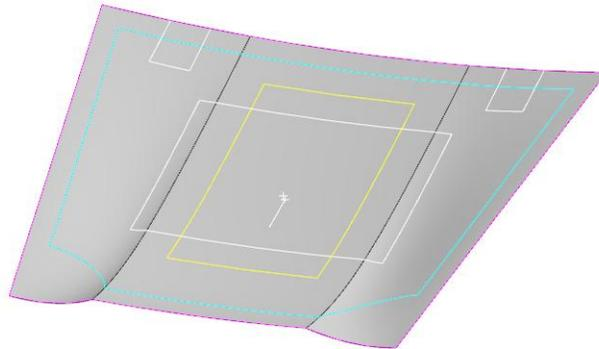

Figure 9–1
1. Open **MULTI_PLY_A.prt**. The model displays as shown in Figure 9–1.